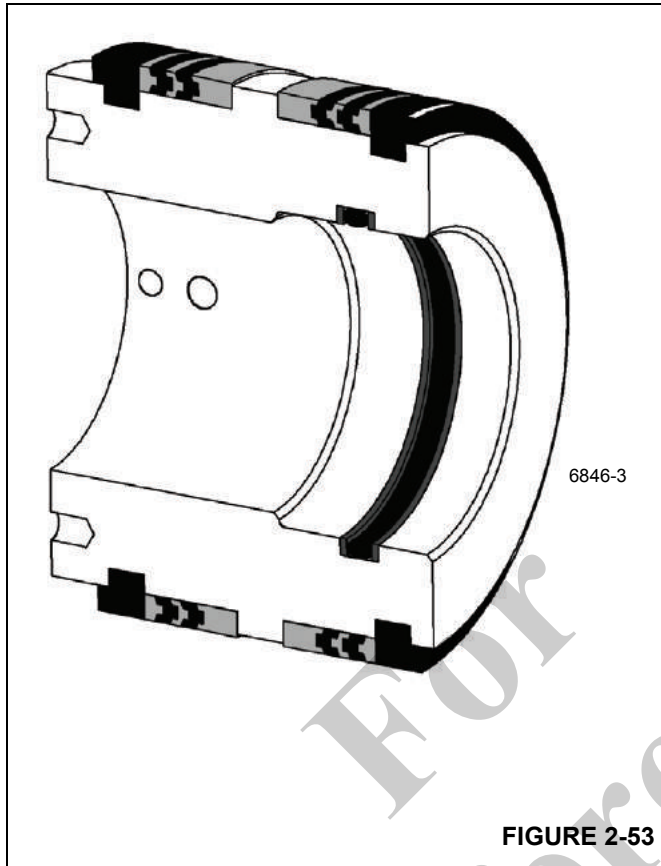

FIGURE 2-53
**NOTE:** For head and piston seal installation, see Figure 2-52 and Figure 2-53.
The center front stabilizer cylinder (see Figure 2-53) has a 8.9 cm (3.5 inch) bore. A port block is welded to the end of the cylinder rod and a pilot operated check valve is threaded into the port block.